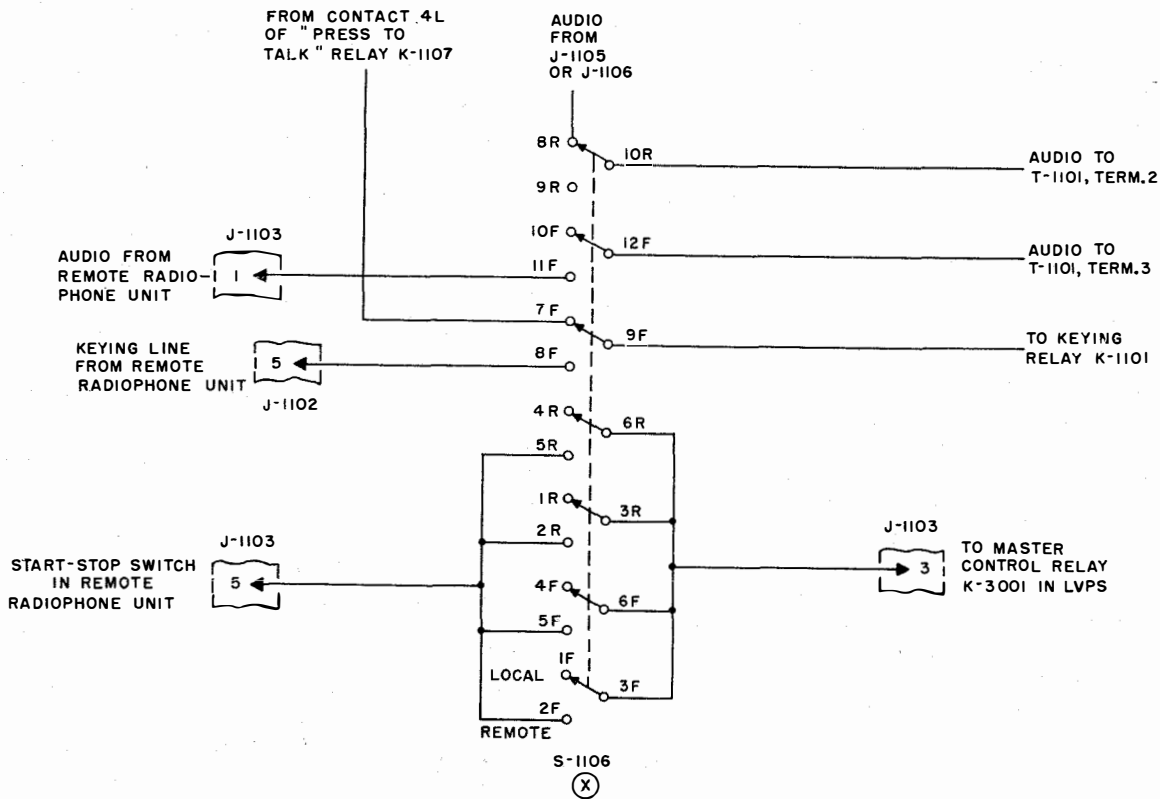

Figure 2-88. LOCAL-REM. Switch (X) S-1106, Simplified Schematic
d. LOCAL-REM. SWITCH \textcircled{X} S-1106.—To enable the transmitter to be controlled either locally at the location of the transmitter group or from a remote position, a LOCAL-REM. switch \textcircled{X} , S-1106, is provided. This switch is a seven-pole, two-position, one-section rotary wafer switch, which is shown in simplified form in figure 2-88. The action of the various poles of S-1106 is covered in the discussion of the associated circuits that they control (see paragraphs 4c, 7b(1) and 7c(1)). For the purposes of uniting the functions required to switch from local to remote operation, table 2-18 is provided.